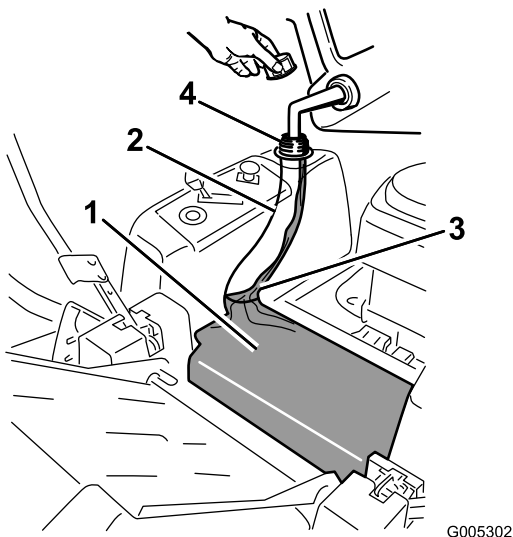

Figure 10
3. Add unleaded regular gasoline until the body of the tank is full but fuel does not fill the neck of the tank (Figure 10). This space in the neck of the tank allows gasoline to expand. Do not fill the fuel tank completely full.